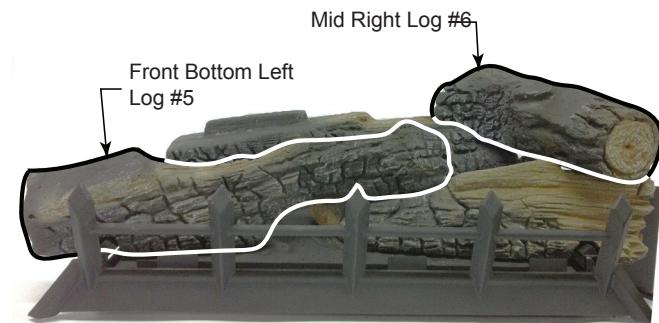

Figure 54
- Place front bottom left log (#5) on left pin located on burner and left grate bar. The right side of the log should rest on log #4. Figure 54
- Place mid right log (#6) on bottom rear log (#1) and front bottom right log (#4) by placing notch on bottom of log on locating block on log #1. Place front of log in notch of log #4. Figure 54